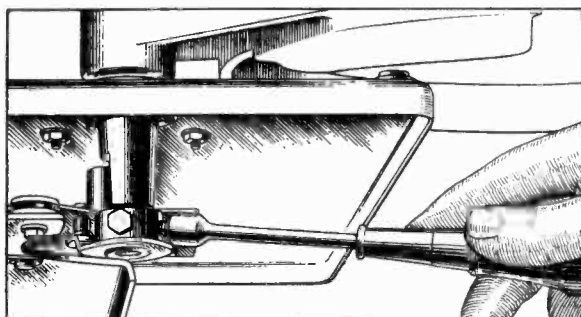

Figure 9—Magazine adjustments
- (b) Improper setting of magazine. The horizontal swing of the magazine should be so adjusted when the mechanism is out of cycle that the outer surface at its nearest point to the nearest side of the turntable spindle is  $5\frac{1}{32}$ ". This can be done by loosening the two screws as shown in Figure 9, moving the magazine to its correct position and retightening the screws.